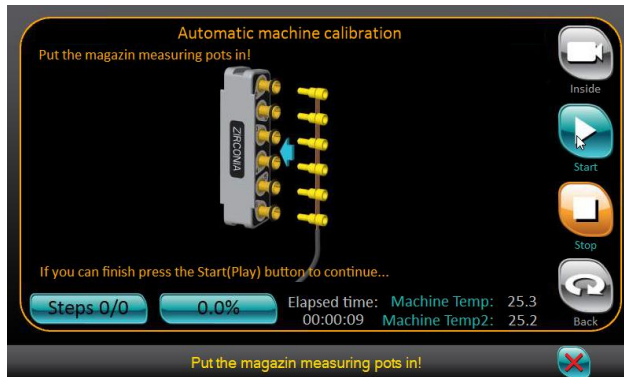

Figure 33 Measuring pots.
Check the TouchProbe connection by plugging it in [Figure 33] and touching the fixture with the measuring head. Go to the settings page [Figure 18]. When the TouchProbe is connected status LED Touch Conn W is lit up. **On touch** you should see the status LED *Touch Probe W* light up. In case of different behavior contact support.
9. Take out the tool magazine and remove the tools from it. Make sure the magazine is properly cleaned, then insert the measuring pots [Figure 33.]. Press *Start* to continue.